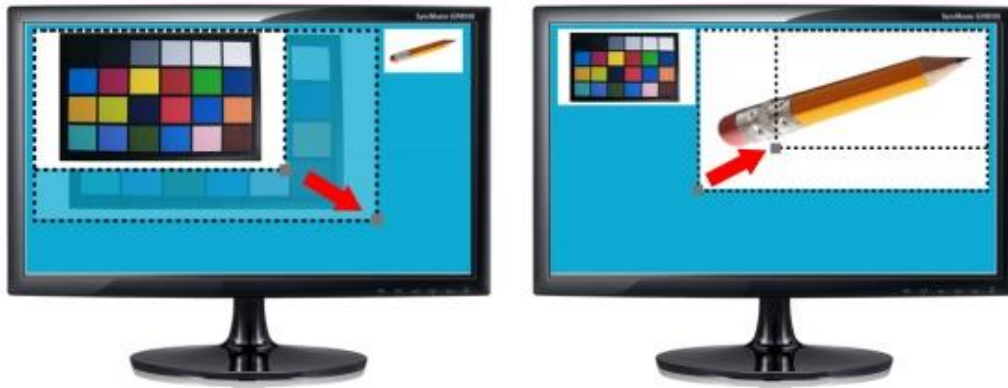
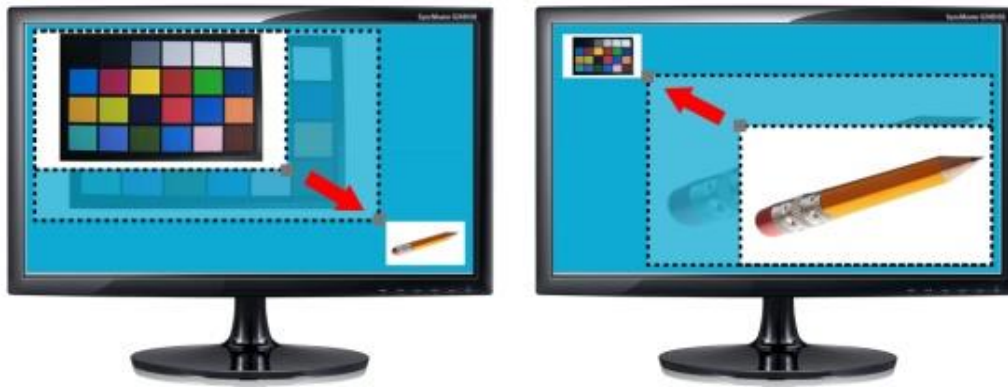

Figure 5-7 Scale video size of camera0 or camera1 on left/right position
Figure 5-8 Scale video size of camera0 or camera1 in the upper left or lower right position
- Press KEY1/2 to scale camera video to left/right position (See **Figure 5-7**) or upper left / lower right position (See **Figure 5-8**).